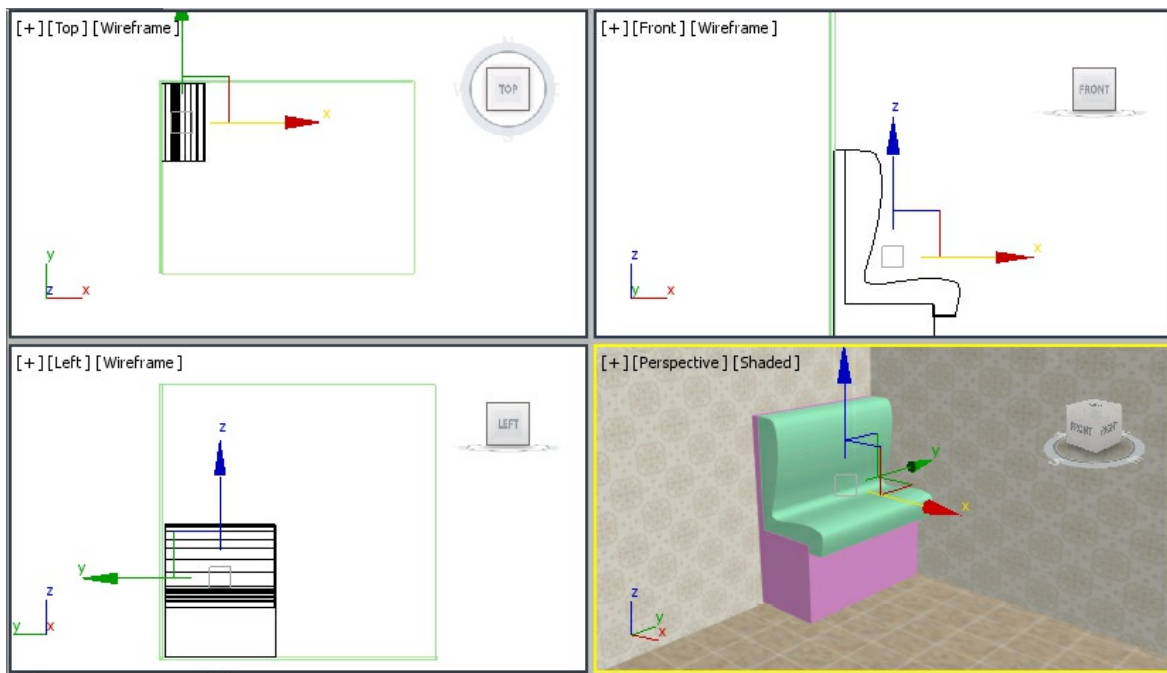

Figure P1-7 Booth and Seat created in the viewport
14. Activate the Top viewport and move both the extruded objects to the top-left corner of the walls. Next, activate the Perspective viewport and rotate and zoom the *Booth* and *Seat* for better visualization. On doing so, *Booth* and *Seat* are positioned, as shown in Figure P1-7.